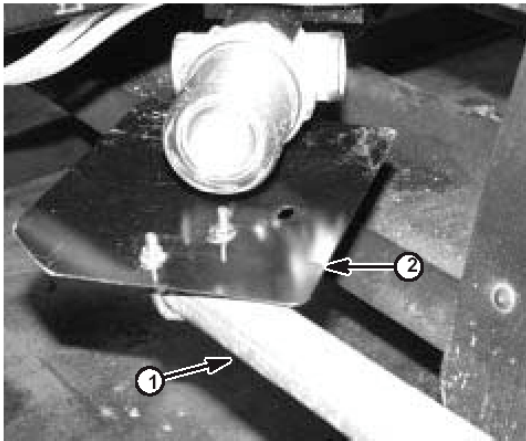

Figure 3
8. Install short tailpipe shield at rear of the tailpipe to protect strainer and supply hoses. Secure with two muffler clamps (Fig. 3).